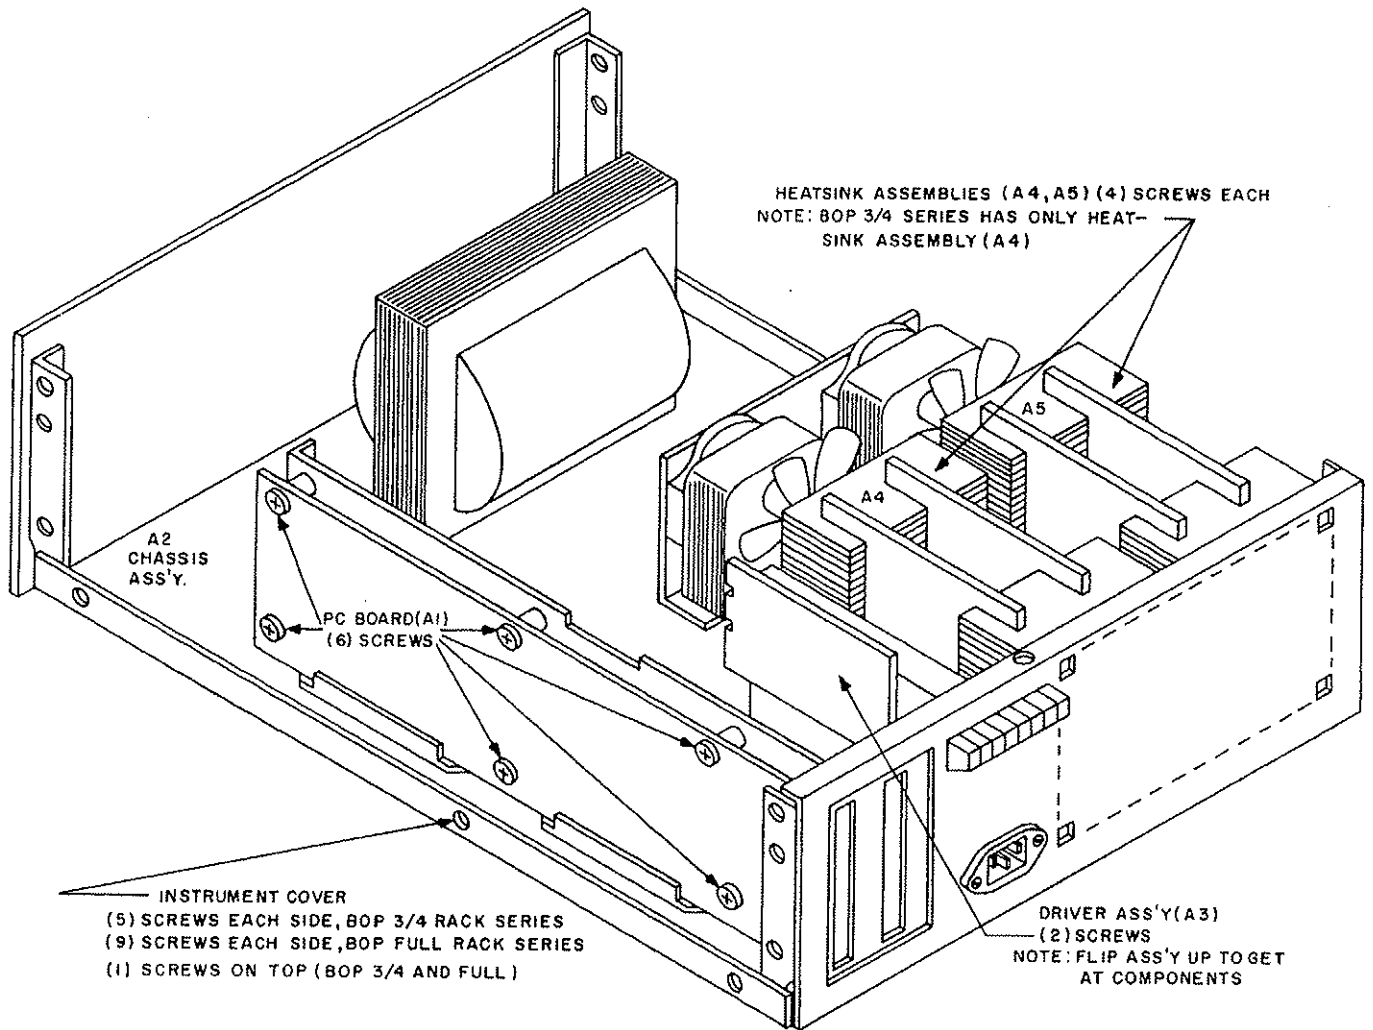
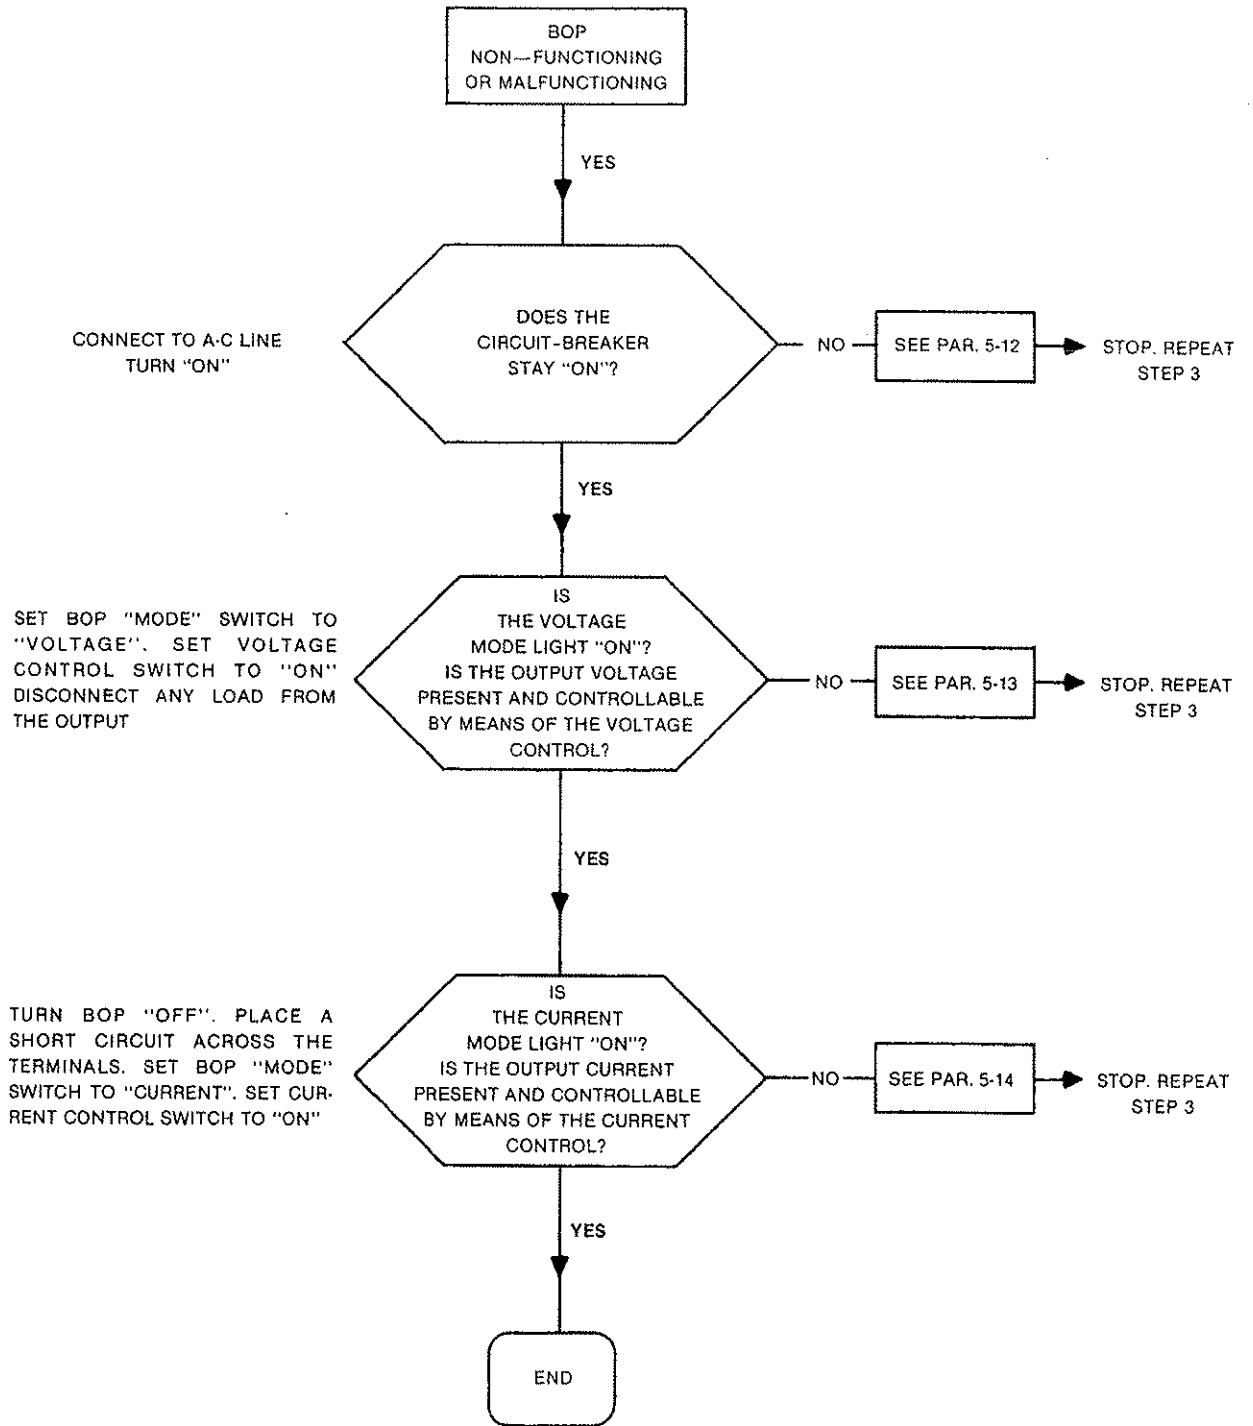

FIG. 5-1 DISASSEMBLY, BOP SERIES.
FIG. 5-3 TROUBLE SHOOTING, FLOW DIAGRAM
4-18 The subassemblies and the main chassis assembly are identified in the Disassembly drawing, Section V, FIG. 5-1. Subassemblies may be individually removed from the main chassis assembly by following the directions given in the drawing. Any component identified on the Main Schematic Diagram (Section VI, FIG. 6-4) may be traced to its physical location on the subassembly by means of its reference designations, the Disassembly drawing (Section V, FIG. 5-1) and the assembly listing in paragraph 4-17.
5-4 Remove the wrap-around cover and disassemble the printed circuit board card and assemblies as described and illustrated in FIG. 5-1 below.
NOTE: BOP FULL-RACK MODEL SHOWN, FOR 3/4 RACK BOP MODELS, SEE SPECIAL REFERENCES IN DISASSEMBLY NOTES ON FIG. 5-1.
- 7) Adjust R316 (except on BOP 200-1M, adjust R314) (located on A3 assembly, see Figs. 5-1 and 6-3 for location) until current reading displayed on precision ammeter exactly matches the BOP rated output current (e.g. for a BOP 50-4M, adjust for exactly 4A.)
Instead, a systematic approach to trouble analysis is presented. Follow the flow diagram (FIG. 5-3) and refer to the applicable paragraphs. For further help in circuit analysis, refer to Section IV (Operational Theory and Circuit Description) and to the Main Schematic Diagram, Section VI (Fig. 6-5). For the actual repair and replacement of components refer to the Disassembly Diagram FIG. 5-1, the Parts Location Diagram, the Connection Diagram and the Replacement Parts List, in Section VI of this manual.
STEP NO. 4: Follow the FLOW CHART (FIG. 5-3) and refer to the appropriate paragraphs.